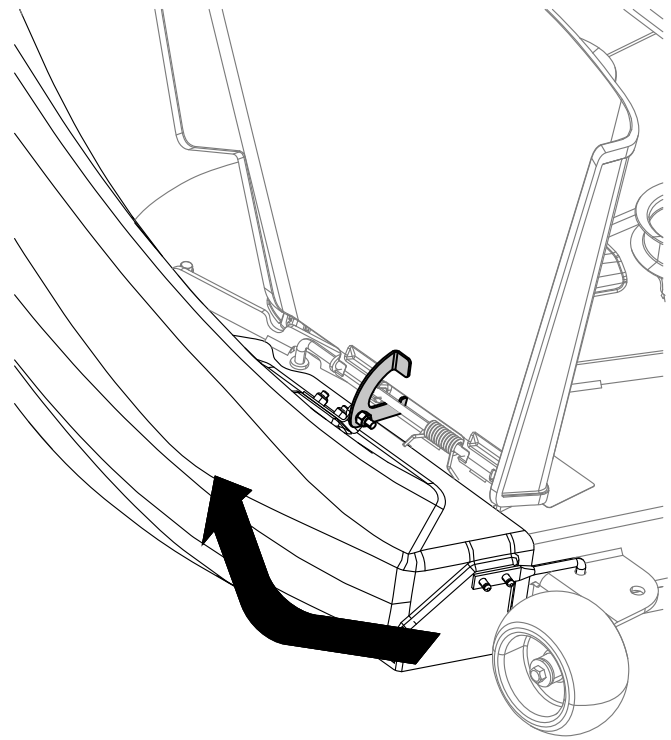

Figure 17
3. On the top of the chute, engage the hook-shaped latch around the pivot rod of the deflector assembly and install the rod into the hole on the mower deck (Figure 17).